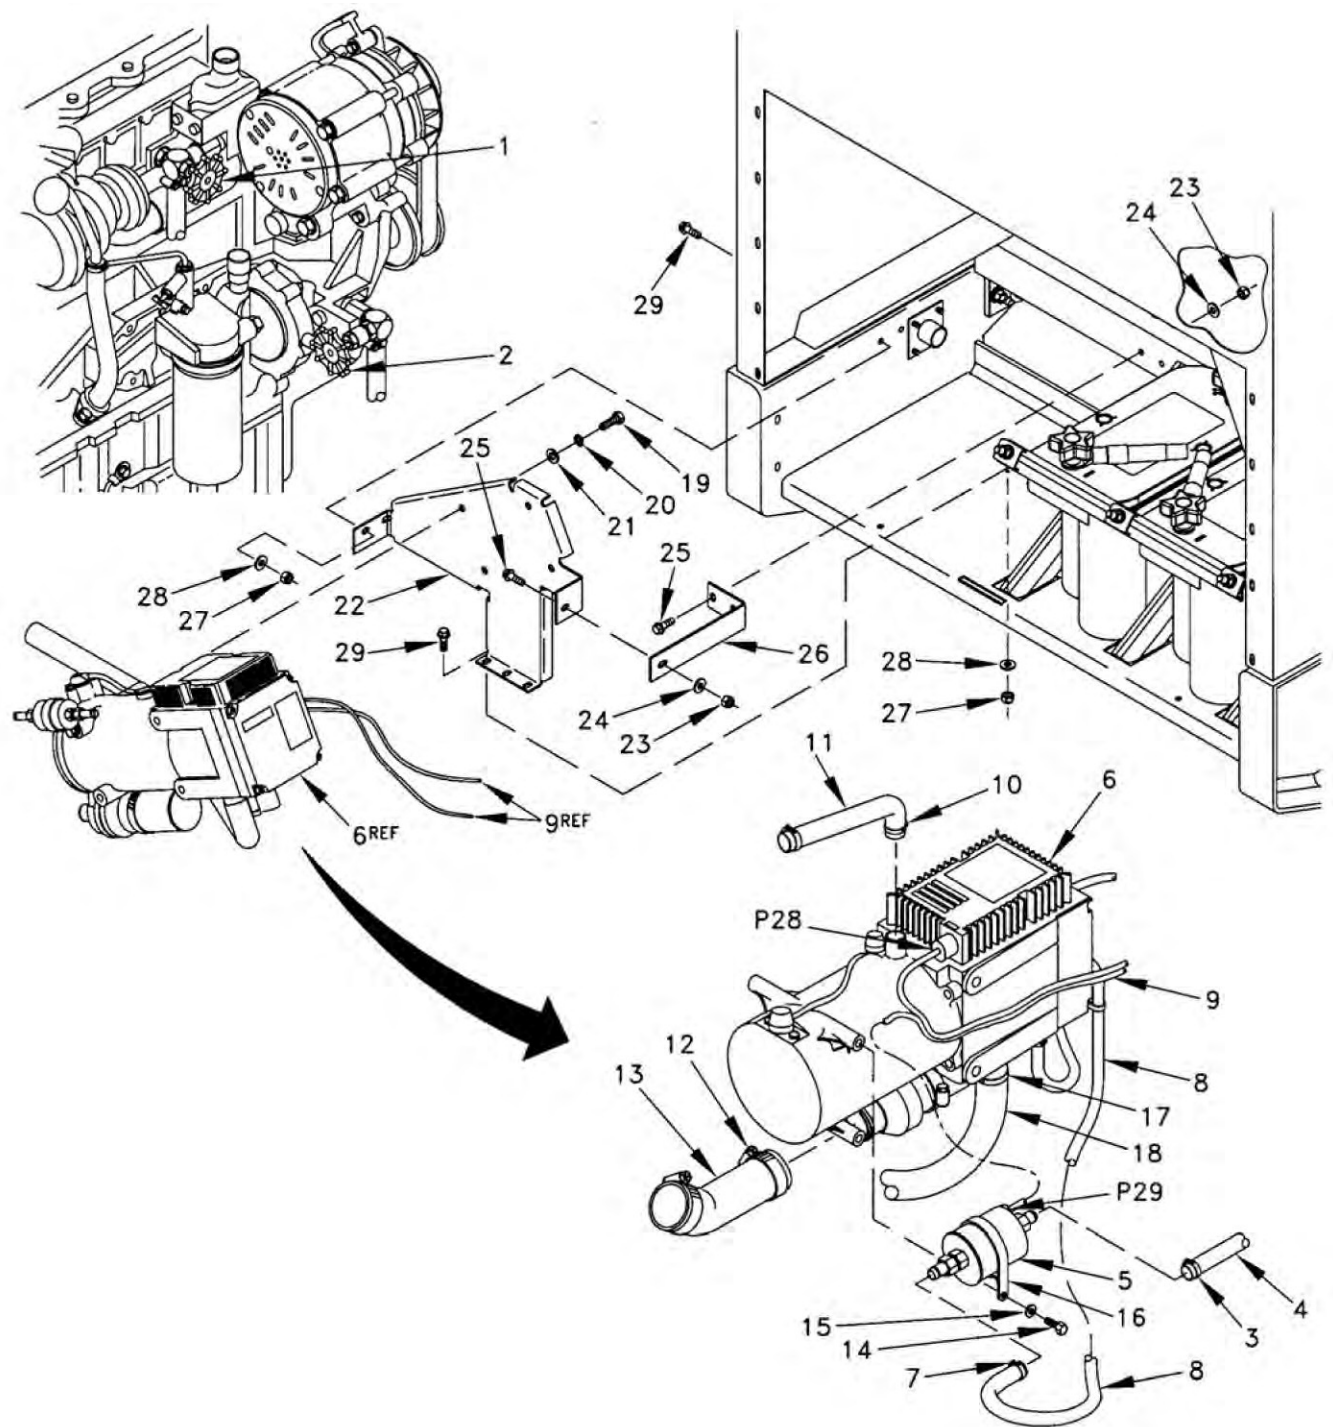

Figure 1. Winterization Heater Assembly.
3. Close shutoff valves (Figure 1, Item 1) and (Figure 1, Item 2).
4. Remove hose clamp (Figure 1, Item 3) and disconnect low-pressure hose (Figure 1, Item 4) from IN side of fuel metering pump (Figure 1, Item 5) on heater (Figure 1, Item 6).
5. Remove hose clamp (Figure 1, Item 7) and disconnect flexible braided hose (Figure 1, Item 8) from OUT side of fuel metering pump (Figure 1, Item 5) on heater (Figure 1, Item 6).
6. Disconnect generator set wiring harness (Figure 1, Item 9) connectors P28 and P29 from heater (Figure 1, Item 6).
7. Remove hose clamp (Figure 1, Item 10) and disconnect 90-degree elbow coolant hose (Figure 1, Item 11) from fitting on top of heater (Figure 1, Item 6).
8. Remove hose clamp (Figure 1, Item 12) and disconnect 90-degree elbow coolant hose (Figure 1, Item 13) from bottom of heater (Figure 1, Item 6).
9. Remove screw (Figure 1, Item 14), washer (Figure 1, Item 15), clamp (Figure 1, Item 16) and fuel metering pump (Figure 1, Item 5) from heater (Figure 1, Item 6).
10. Remove hose clamp (Figure 1, Item 17) and disconnect flexible exhaust tubing (Figure 1, Item 18) from heater (Figure 1, Item 6).
11. Remove four screws (Figure 1, Item 19), lock washers (Figure 1, Item 20), washers (Figure 1, Item 21), and heater (Figure 1, Item 6) from vertical heater mounting bracket (Figure 1, Item 22).
12. Remove three locknuts (Figure 1, Item 23), washers (Figure 1, Item 24), screws (Figure 1, Item 25), and horizontal heater bracket (Figure 1, Item 26).
13. Remove five locknuts (Figure 1, Item 27), washers (Figure 1, Item 28), screws (Figure 1, Item 29), and vertical heater mounting bracket (Figure 1, Item 22).
1. Install vertical heater mounting bracket (Figure 1, Item 22) and secure with five screws (Figure 1, Item 29), washers (Figure 1, Item 28), and locknuts (Figure 1, Item 27).
2. Install horizontal heater bracket (Figure 1, Item 26), and secure with three screws (Figure 1, Item 25), washers (Figure 1, Item 24), and locknuts (Figure 1, Item 23).
3. Install heater (Figure 1, Item 6) on vertical heater mounting bracket (Figure 1, Item 22) and secure with four washers (Figure 1, Item 21), lock washers (Figure 1, Item 20), and screws (Figure 1, Item 19).
4. Connect flexible exhaust tubing (Figure 1, Item 18) on heater (Figure 1, Item 6) and install hose clamp (Figure 1, Item 17).
5. Install fuel metering pump (Figure 1, Item 5) and clamp (Figure 1, Item 16) on heater (Figure 1, Item 6) and secure with washer (Figure 1, Item 15) and screw (Figure 1, Item 14).
6. Connect 90-degree elbow coolant hose (Figure 1, Item 13) to bottom of heater (Figure 1, Item 6) and install hose clamp (Figure 1, Item 12).
7. Connect 90-degree elbow coolant hose (Figure 1, Item 11) to top of heater (Figure 1, Item 6) and install hose clamp (Figure 1, Item 10).
8. Connect generator set wiring harness (Figure 1, Item 9) connectors P28 and P29 to heater (Figure 1, Item 6) in two places.
9. Connect flexible braided hose (Figure 1, Item 8) to OUT side of fuel metering pump (Figure 1, Item 5) and install hose clamp (Figure 1, Item 7).
10. Connect low-pressure hose (Figure 1, Item 4) to IN side of fuel metering pump (Figure 1, Item 5) and install hose clamp (Figure 1, Item 3).
11. Open shutoff valves (Figure 1, Item 2) and (Figure 1, Item 1).